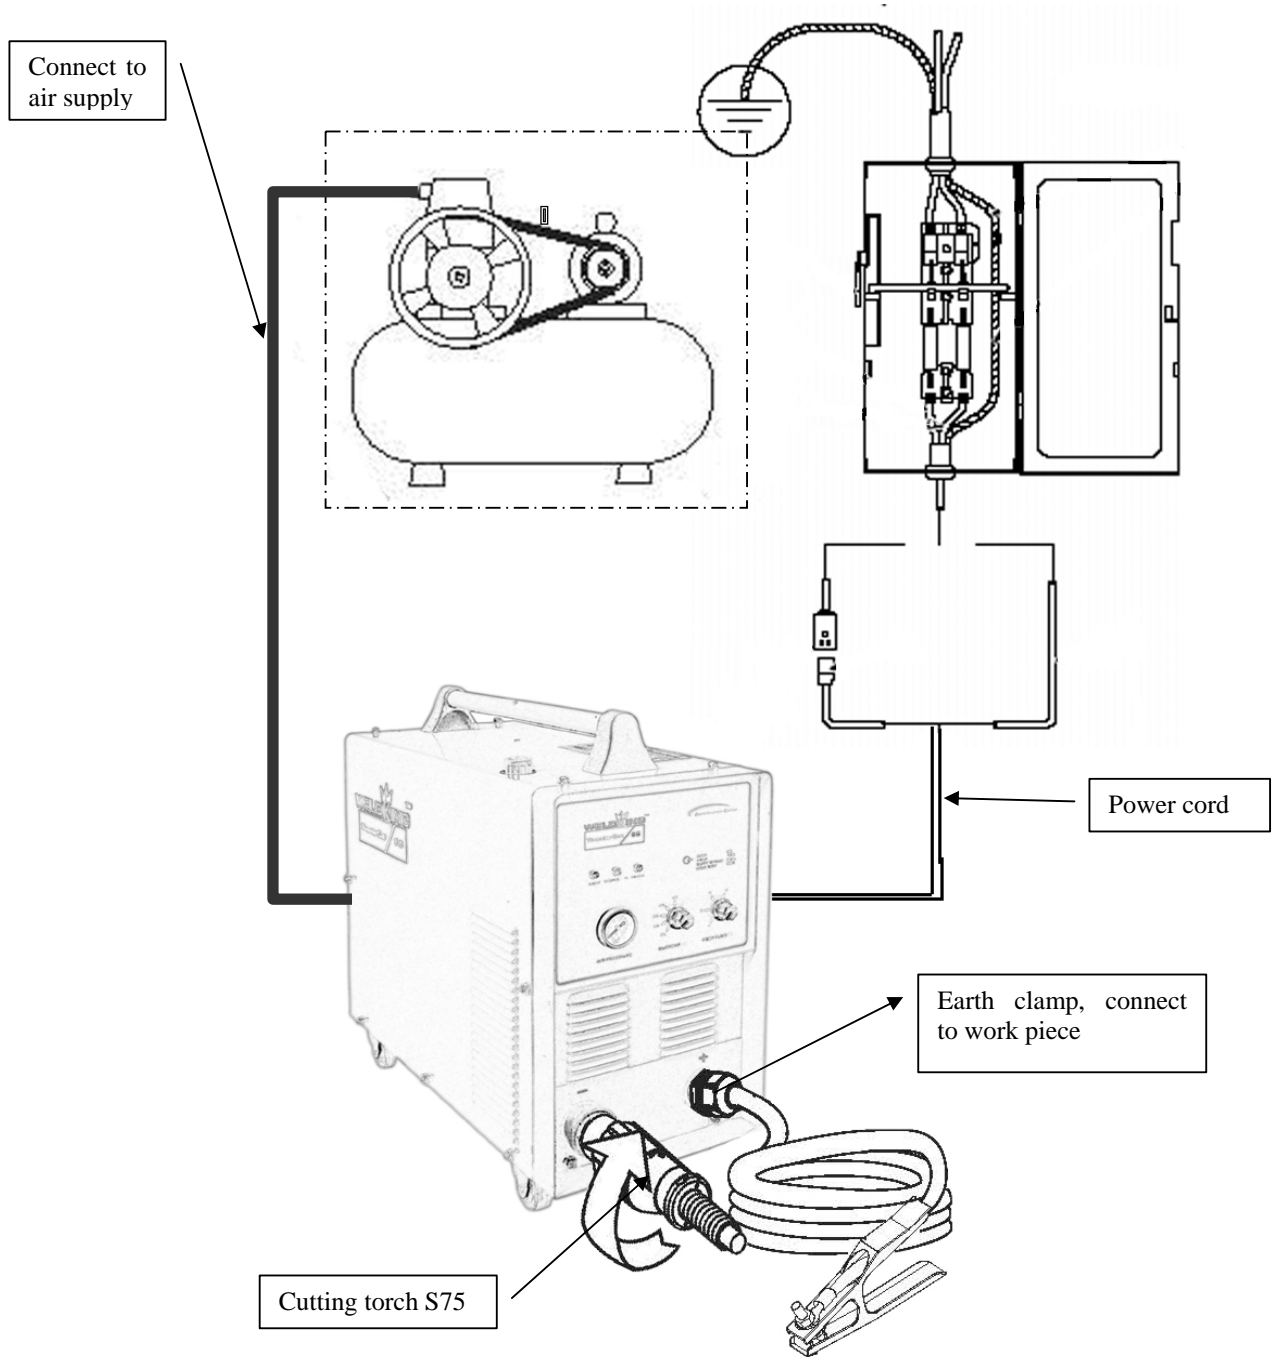

Figure 2.1
- 2-3.7. Use a 3/8 inch (9.5mm) ID inert gas hose to connect the gas supply (air or nitrogen) to the power supply filter. To connect the hose, install a 1/4 NPT nipple to the filter as show in Figure 2.1. Apply liquid pipe sealant to the threads to ensure a leak-free installation. **Never use Teflon tape when installing the nipple or adapters. Bits of tape can break off and enter the air line and harm the pressure regulator, pressure switch and valve.**